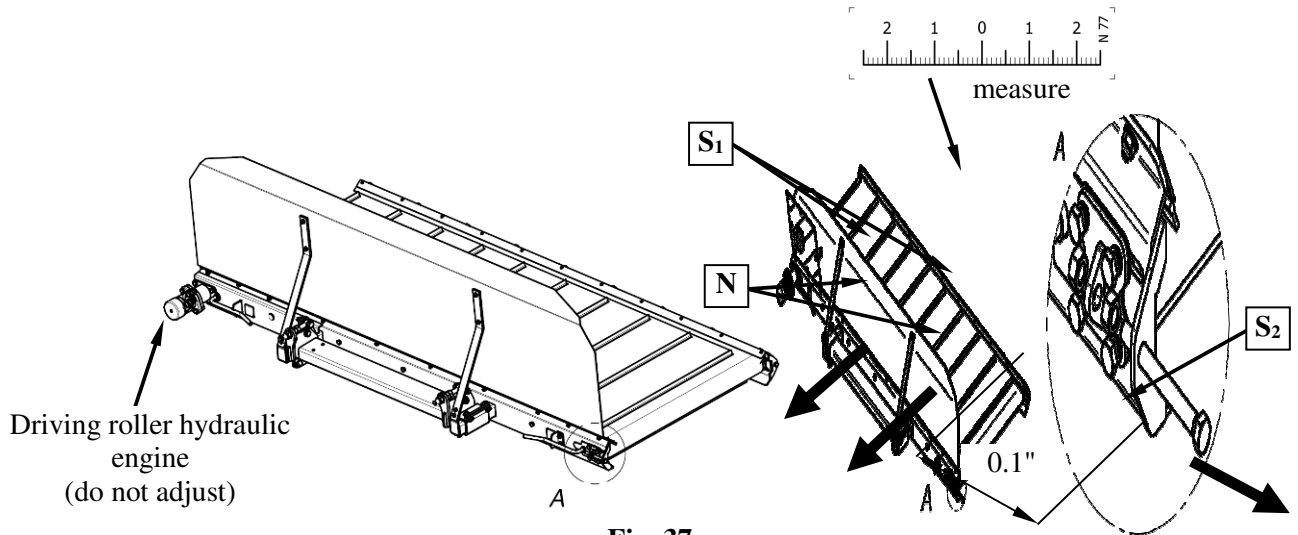

Fig. 37.
2. Loosen tightening roller mechanism – bolts M10 - S₁, nuts, M12 – N₂ and loosen adjustment bolt M12 – S₂ by approx. 1.2” (**Fig. 37**).